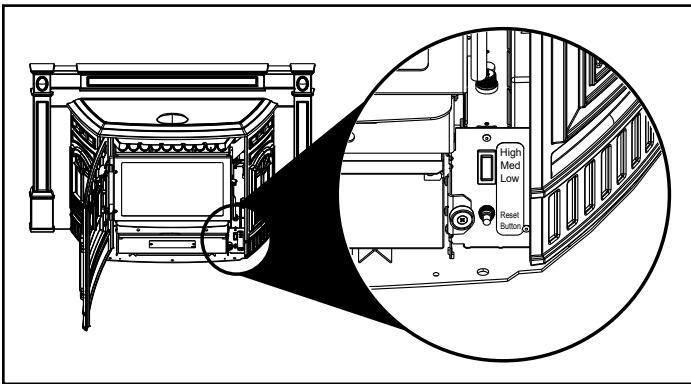

Figure 10.1
2. **Heat Output Controls:** This appliance is equipped with a heat output control switch that has three settings or burn rates; low, medium and high (**Figure 10.1**). The appliance will turn on and off as the thermostat demands. When the thermostat calls for heat, the appliance will always start up on High. After burning approximately 4 minutes, the appliance will then burn at the rate at which it was originally set. If the appliance is set at one of the lower settings, it will run quieter but takes longer to heat up an area than if it were set at a higher burn rate. Regardless of the burn rate, when the area is warm enough to satisfy the thermostat, the appliance will shut off.
3. Locate the heat output control switch on the lower right side of the firebox behind decorative front door. Set to the HIGH setting and then adjust the thermostat to its highest setting. The red call light will be on which is located on the top of the junction box behind the right access panel. This indicates the thermostat is calling for heat (**Figure 10.1**).
3. Occasionally the appliance may run out of fuel and shut itself down. When this happens, the red call light will be on (**Figure 10.1 on page 10**). To restart it, fill the hopper and press the reset button. When you press the reset button the red call light will go out. Release the button and the light will come back on. You should see a fire shortly. If not, follow **Starting Your First Fire** instructions on page 10.